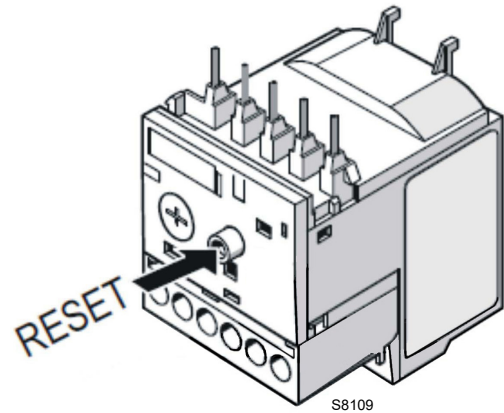

Fig. 39
- To reset, in the case of an intervention of the electronic relay, press the button “RESET” (Fig. 39).